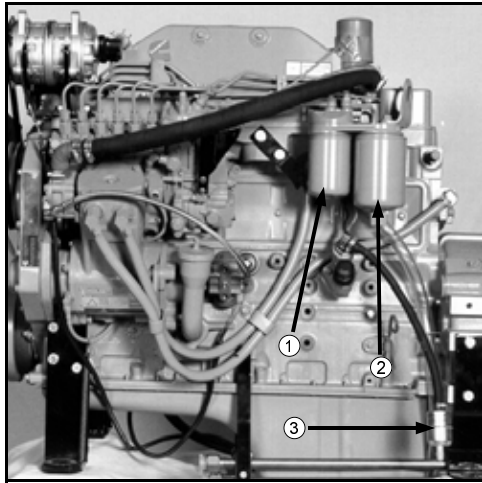

FIG 8.30
PRIMARY (WATER SEPARATOR) - (fig. 8.30, item 2) Drain water and sediment from the separator daily. Replace every 500 hours or once a year, whichever comes first.
SECONDARY - (fig. 8.30, item 1) Replace every 500 hours or once a year, whichever comes first.
IN-LINE STRAINER - (fig. 8.30, item 3) Note direction of fuel flow arrow when replacing.